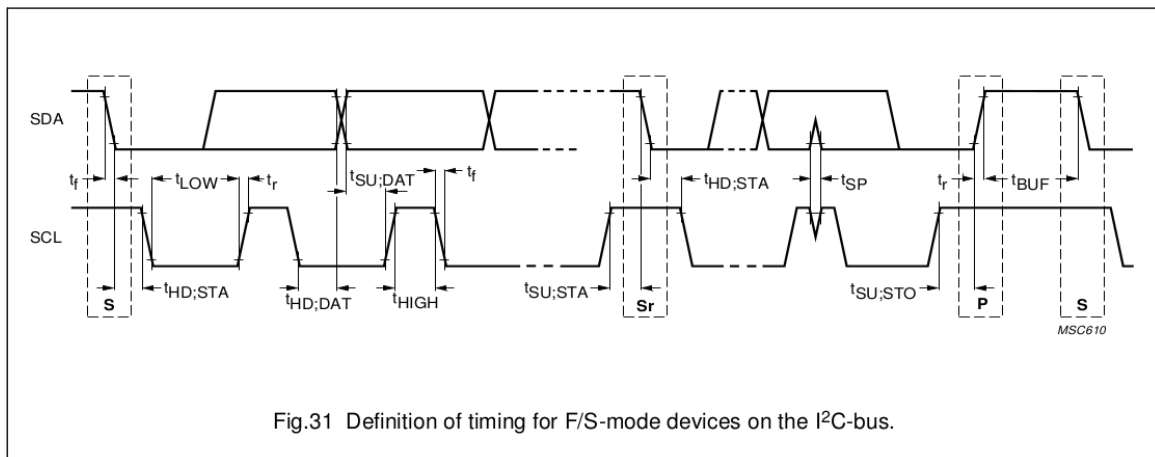

Figure 34.3-3. I2C Protocol Timing (Cited from Fig.31 in The I2C-bus specification Version 2.1)
- SCL clock controller (SCL_FSM): generates the timing sequence conforming to the I2C protocol. Figure 34.3-3 and Table 34.3-1 are the timing diagram and corresponding parameters of the I2C protocol.